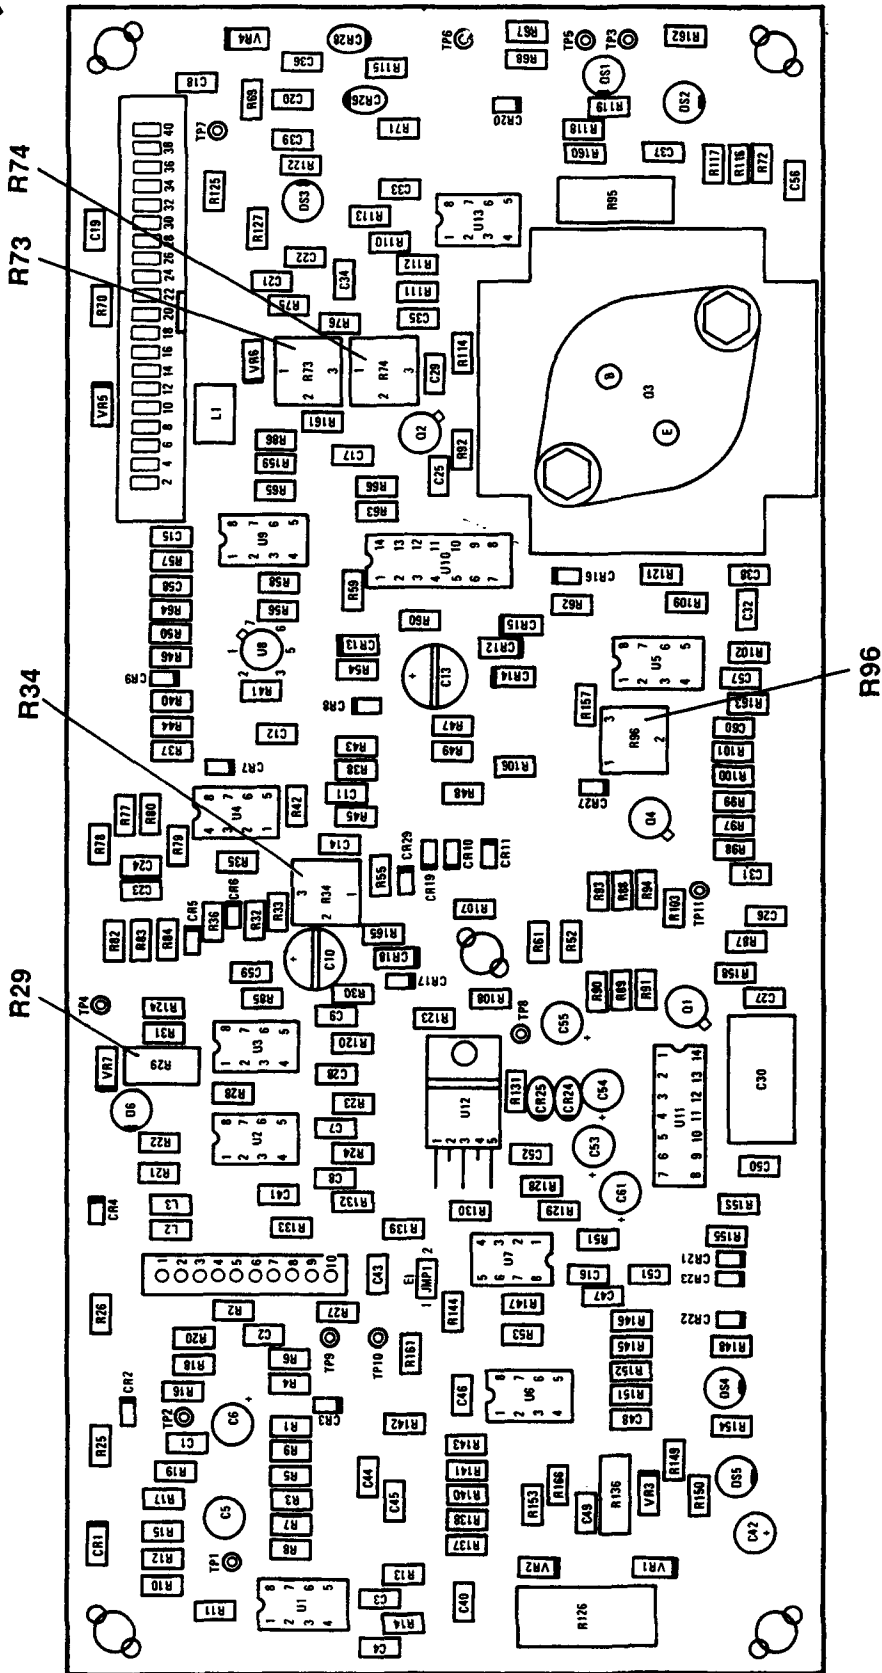

Figure 6-17. Power Control PWB Assy
- (1) Reverse the order of the above steps.
- (2) After installing the Power Control PWB Assy, complete realignment must be accomplished, starting with R34, CW/FSK Power Adjustment, which is normally set fully counterclockwise (full power). Next realign R96, max Plate Current Adjustment to 400 ma, so that the 1 KW Power Amplifier will produce sufficient power to accomplish the realignment. This realignment must be accomplished to bring the Power Control PWB Assy within specifications for use in the 1 KW Power Amplifier. Use the procedures in Section V. Alignment Procedures, Para 6-23. e. Power Control PWB Assy, A5. (See Figure 6-17)